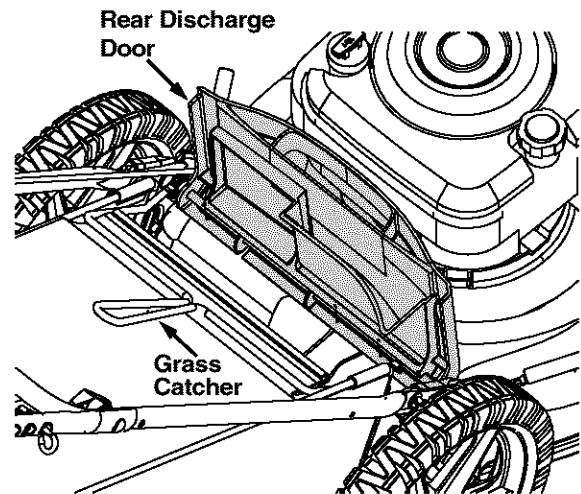

Figure 6
- Lift the rear discharge door and place the grass catcher on the pivot rod. Let go of discharge door so that it rests on the grass catcher. See Figure 6.